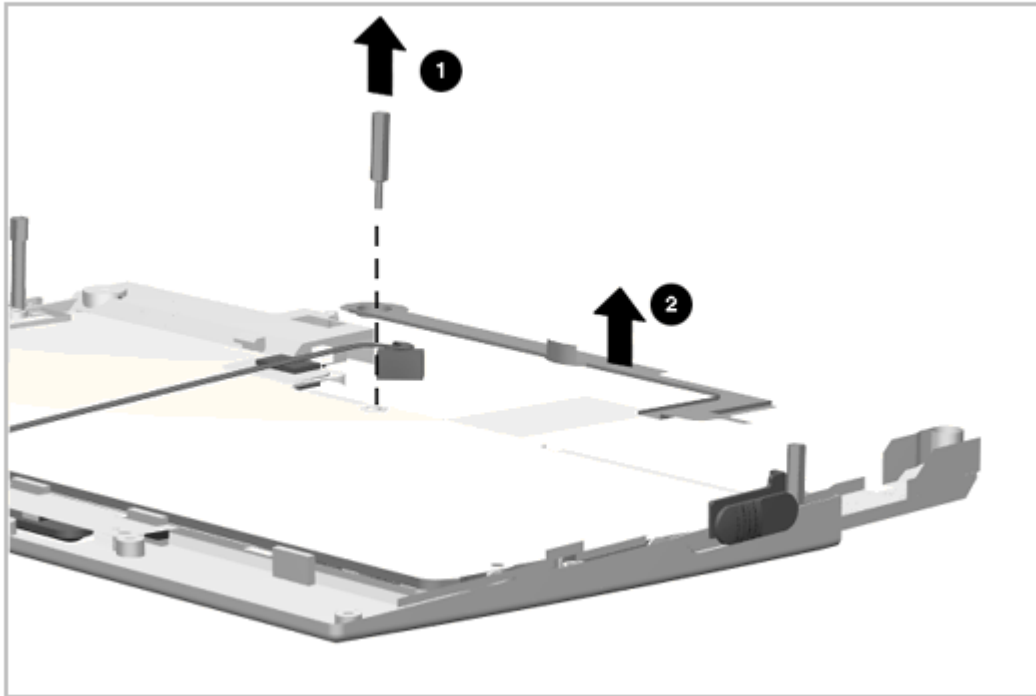

Figure 5-44. Removing the CD-ROM Eject Bar and Standoff
2. Remove the standoff [1] from the CD-ROM eject bar [2] and lift out the eject bar (Figure 5-44).